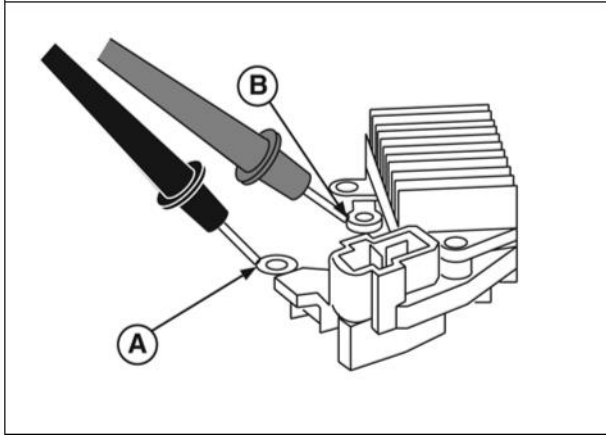

Figure 32
2. Attach BLACK meter test lead to “B” terminal (Figure 32). Leave attached through Step 4.
3. Contact (A) terminal with red meter test lead.